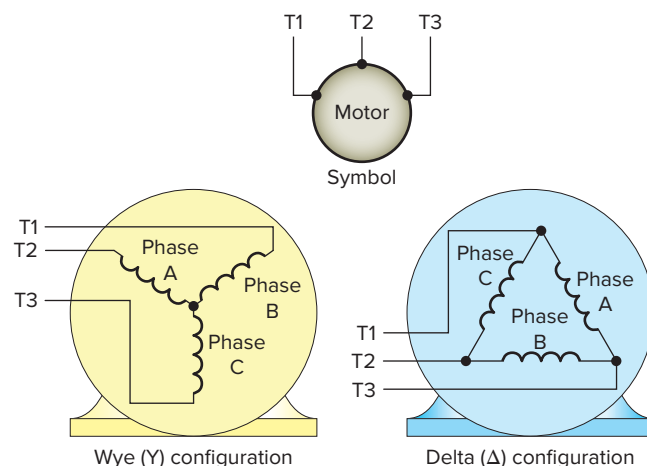

Figure 2-35 Three-phase wye and delta motor connections.
Large horsepower AC motors are usually three-phase. All three-phase motors are constructed internally with a number of individually wound coils. Regardless of how many individual coils there are, the individual coils will always be wired together (series or parallel) to produce three distinct windings, which are referred to as phase A, phase B, and phase C. All three-phase motors are wired so that the phases are connected in either **wye (Y)** or **delta (Δ)** configuration, as illustrated in Figure 2-35.